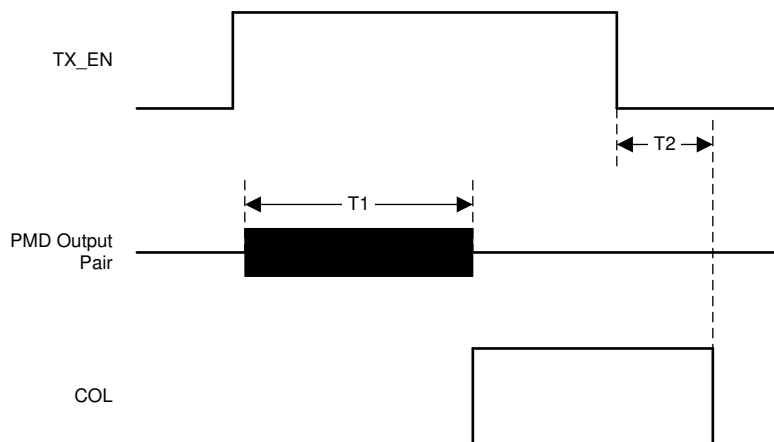

图 7-15. 10BASE-Te Jabber Timing
- (1) Ensured by production test, characterization or design.
- (2) See 图 7-15.